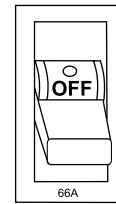

Figure 77. Main Breaker Tripped
5. Verify that the **main circuit** breaker (Figure 77) **trips** automatically to the **OFF** position.